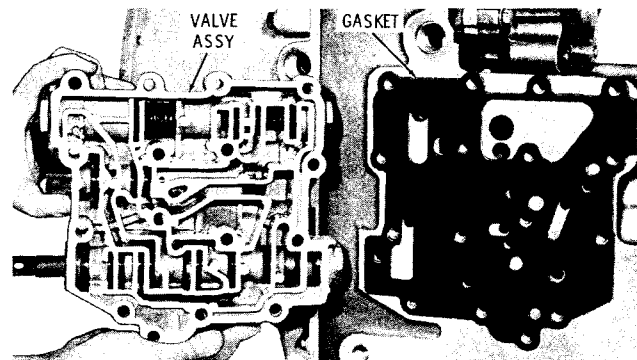

Fig. 7-43. Installing control valve assembly
(1) Remove the temporarily installed bolt and washer from the valve body mounting pad. Install the valve body gasket and retain it with oil-soluble grease (fig. 7-43). Install the control valve body assembly.
(2) Install fifteen 3/8-16 x 2 1/2-inch bolts 4 (B, foldout 15), one 3/8-16 x 1-inch bolt 3, and sixteen 3/8 lockwashers 2. Progressing from the center of the valve body outward, tighten the bolts evenly to half torque then to 26 to 32 pound feet full torque.